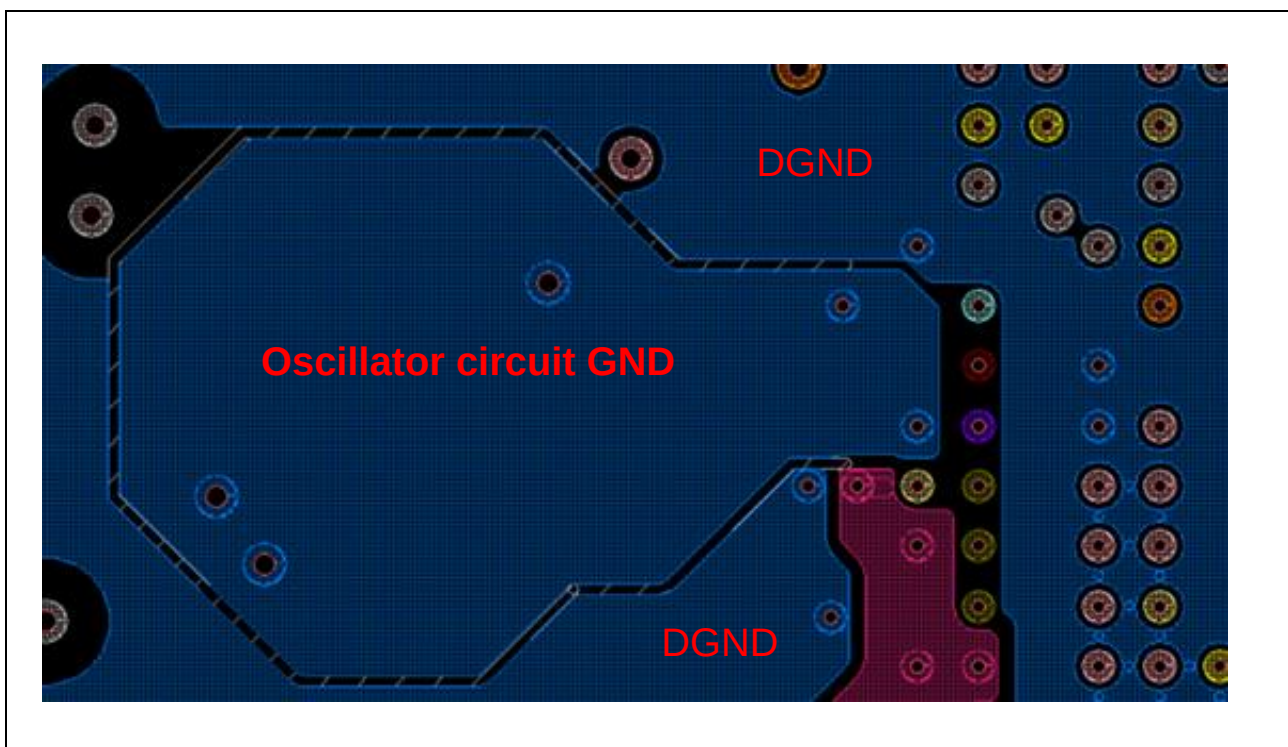

Figure 3.4 Example layout of the second layer (Layer2) of the P.C.B.
**Figure 3.4** shows a layout example of the second layer (Layer2) of the PCB.